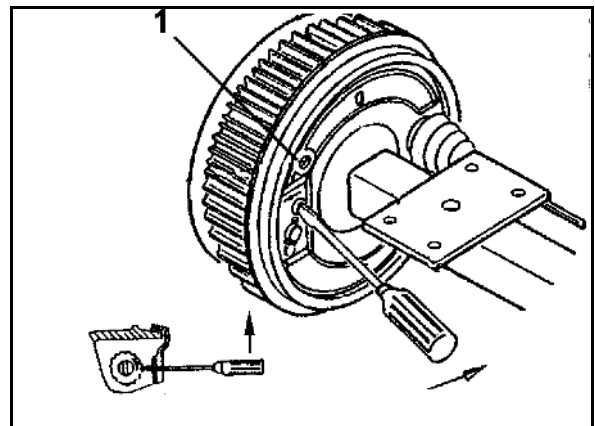

Fig. 81
1. Press together the locking piece (Fig. 81/1) on the two lugs.
4. Press together the locking piece (Fig. 81/1) on the two lugs.